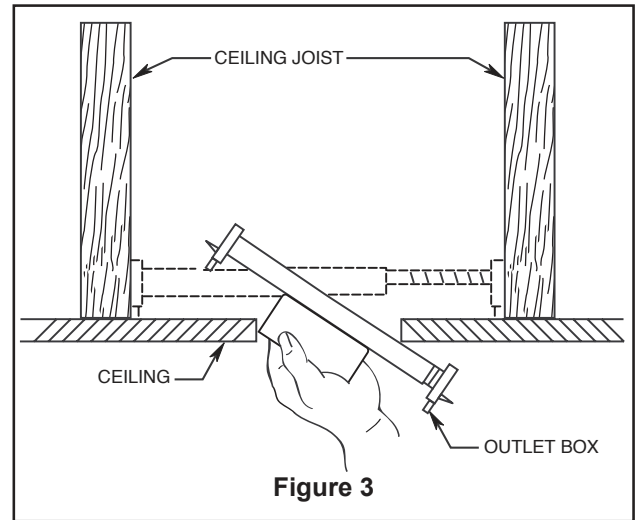

Figure 3
Your new ceiling fan will require a grounded electrical supply line of 120 volts AC, 60 HZ, 15 Amp Circuit. Electrical code requires use of a fan-rated outlet box to support the extra weight and motion associated with a ceiling fan. A fan-rated box will be labeled as such and typically supports up to a 70lb ceiling fan. Fan-Rated Outlet Boxes vary in ratings and design. Ensure the ratings of your ceiling fan outlet box meet the requirements for the ceiling fan being installed. Figure 1, Figure 2 and Figure 3 depicts different structural configurations that may be used for mounting the outlet box.
Deep box with brace (Figure 3)
- ☐ 2. Using the outlet box screws provided with the outlet box, securely attach the ceiling bracket to the outlet box as shown. (Figure 3)
3. Please remove the flexible bushing prior to pushing the canopy trim ring up. Push the canopy trim ring up to conceal the screws, such that the mounting tabs seat into the dimpled grooves in the ceiling bracket midway between the screws. (Figure 3)
- ☐ 3. Remove one of the three screws in the light kit. Retain the screw for later and slightly loosen the remaining two screws. (Figure 3)